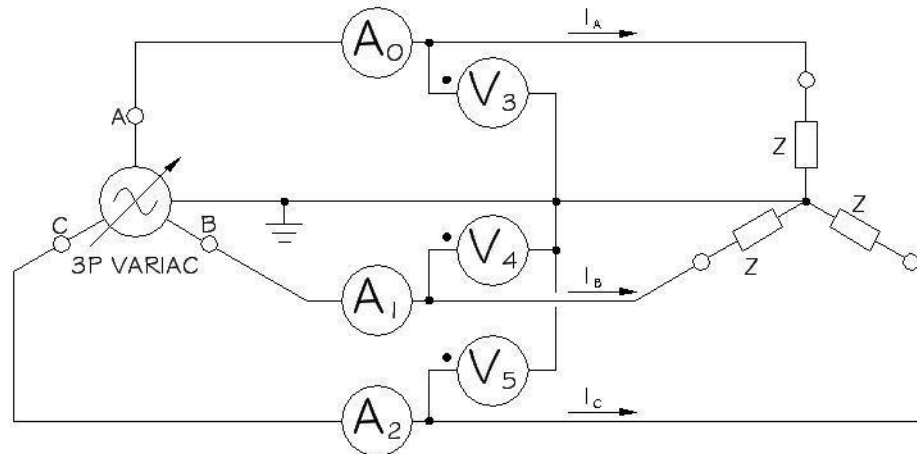

Figure 2. Three-Phase Power Measurement
3. **Three-Phase Power Measurement** – Wire one of the Three-Phase variac (“AC-DC POWER & AC LOAD PANEL”) to the Three-Phase Load (“AC LOAD PANEL”) as shown in **Figure 2**. Measure the voltage, current, and power for each channel for a resistive load at 60V and 120V (phase voltage).